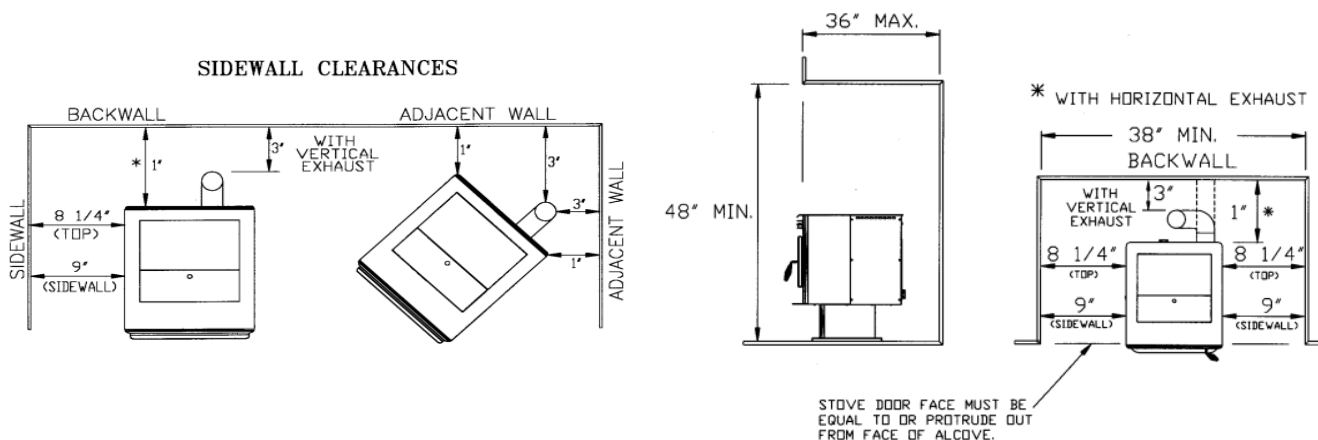

Figure 1
1. Position stove, adhering to clearances shown in Figure 1.
5. Position the stove, adhering to the clearances in Figure 1.
1. Position the stove, adhering to the clearances in Figure 1. Mark the center of the hole where the pipe is to pierce the masonry chimney.